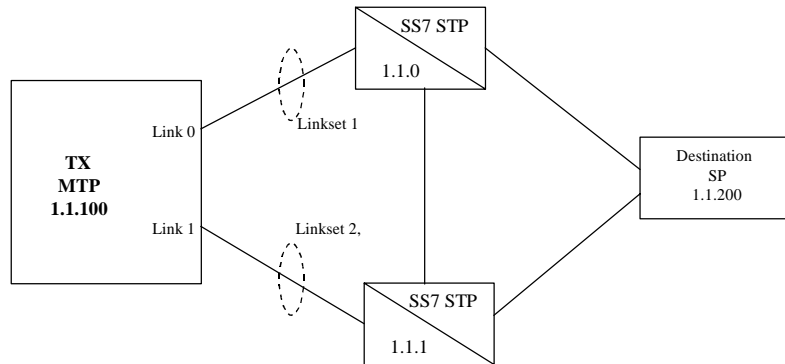

Figure 4. Non-Adjacent Signaling Point
The sample configuration shown above involves only a single adjacent signaling point directly connected to the TX board. You may also need to configure non-adjacent signaling points (for example, those that are not directly connected to the MTP 3 layer but are accessible through a signaling point that is directly connected), such as in the network configuration shown in Figure 4. The procedure for configuring a non-adjacent signaling point is as follows:
1. Configure all links, link sets, and routes to adjacent signaling points, such as the STPs in Figure 4, as described in the sample configuration files.
Since the non-adjacent SP in Figure 4 (point code 1.1.200) is accessible from both STPs the route entry for 1.1.200 is added to the link set definitions for both linksets one and two. Note that since the STPs in Figure 4 are cross-connected, the route to each STP is also added to both linksets one and two since STP 1.1.1 may be reached directly through linkset two or indirectly through linkset one via STP 1.1.0. A sample MTP configuration file for this network configuration appears as follows: